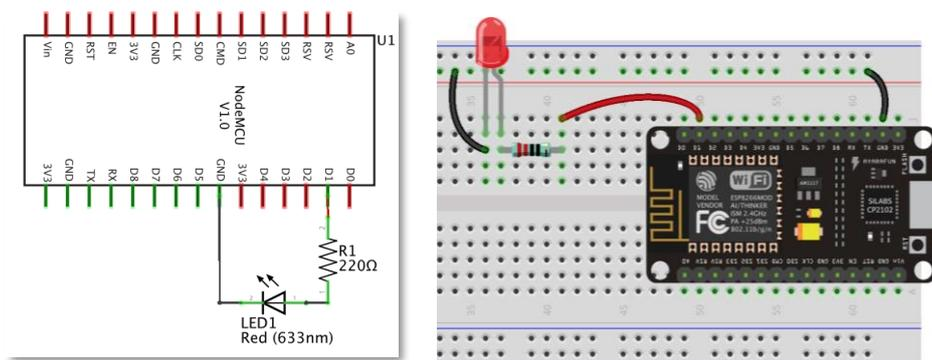

Figure B11
20. Construct the following circuit using the given kit as Figure B11.